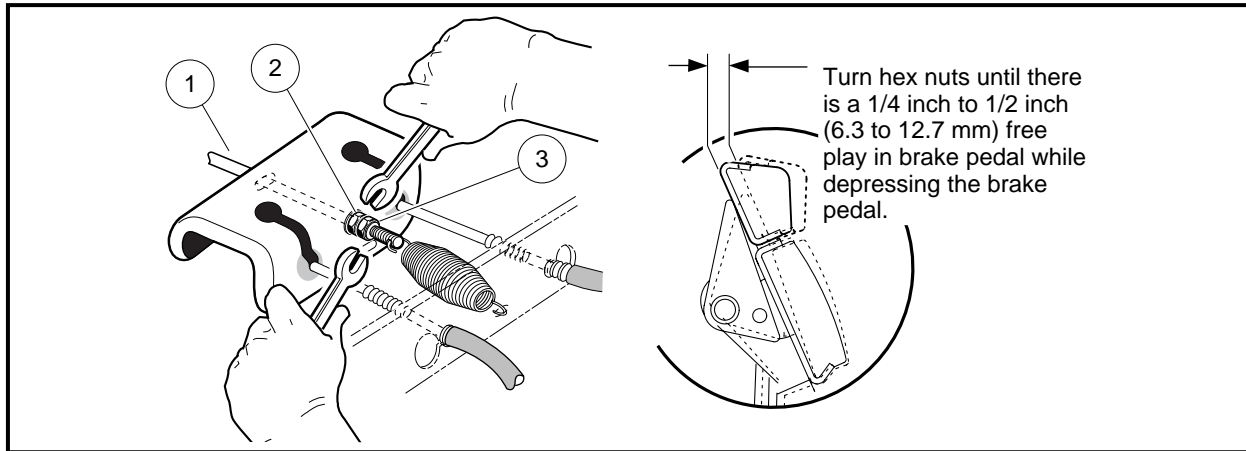

Figure 5-22 Adjust Pedal Free Play
6. Tighten the jam nut (3) while holding the adjustment nut (2) in the correct position on the equalizer rod so brake pedal free-play is 1/4 to 1/2 inch (6.35 to 12.7 mm) (**Figure 5-22, Page 5-14**). **See following NOTE.**